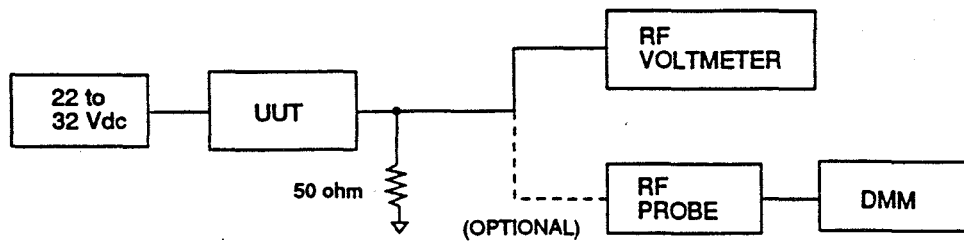

Figure 4-1. Output Level Test Configuration
- (1) Connect the UUT as shown in Figure 4-1.
- (2) Apply dc power and allow the UUT to stabilize (> 10 minutes).
- (3) Measure output level with a rf voltmeter, using a 50 ohm resistive termination. Record the voltage level of output.
- (4) Observed voltage level must be .5 Vrms. +30%, -0%.